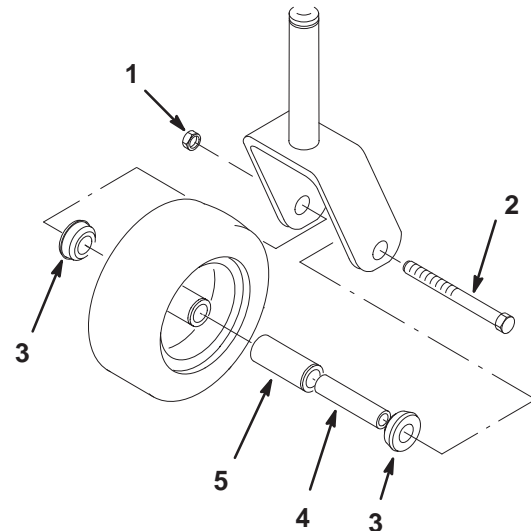

Figure 65
1. Remove the locknut and wheel bolt holding the caster wheel to the caster fork (Fig. 65).
2. Remove one bushing, then pull the spanner bushing and roller bearing out of the wheel hub (Fig. 65).
3. Remove the other bushing from the wheel hub and clean any grease and dirt from the wheel hub (Fig. 65).
4. Inspect the roller bearing, bushings, spanner bushing and inside of the wheel hub for wear. Replace any defective or worn parts (Fig. 65).
5. To assemble, place one bushing into the wheel hub. Grease the roller bearing and spanner bushing and slide them into the wheel hub. Place the second bushing into the wheel hub (Fig. 65).
6. Install the caster wheel into the caster fork and secure with the wheel bolt and locknut. Tighten the locknut until the spanner bushing bottoms against the inside of the caster forks (Fig. 65).